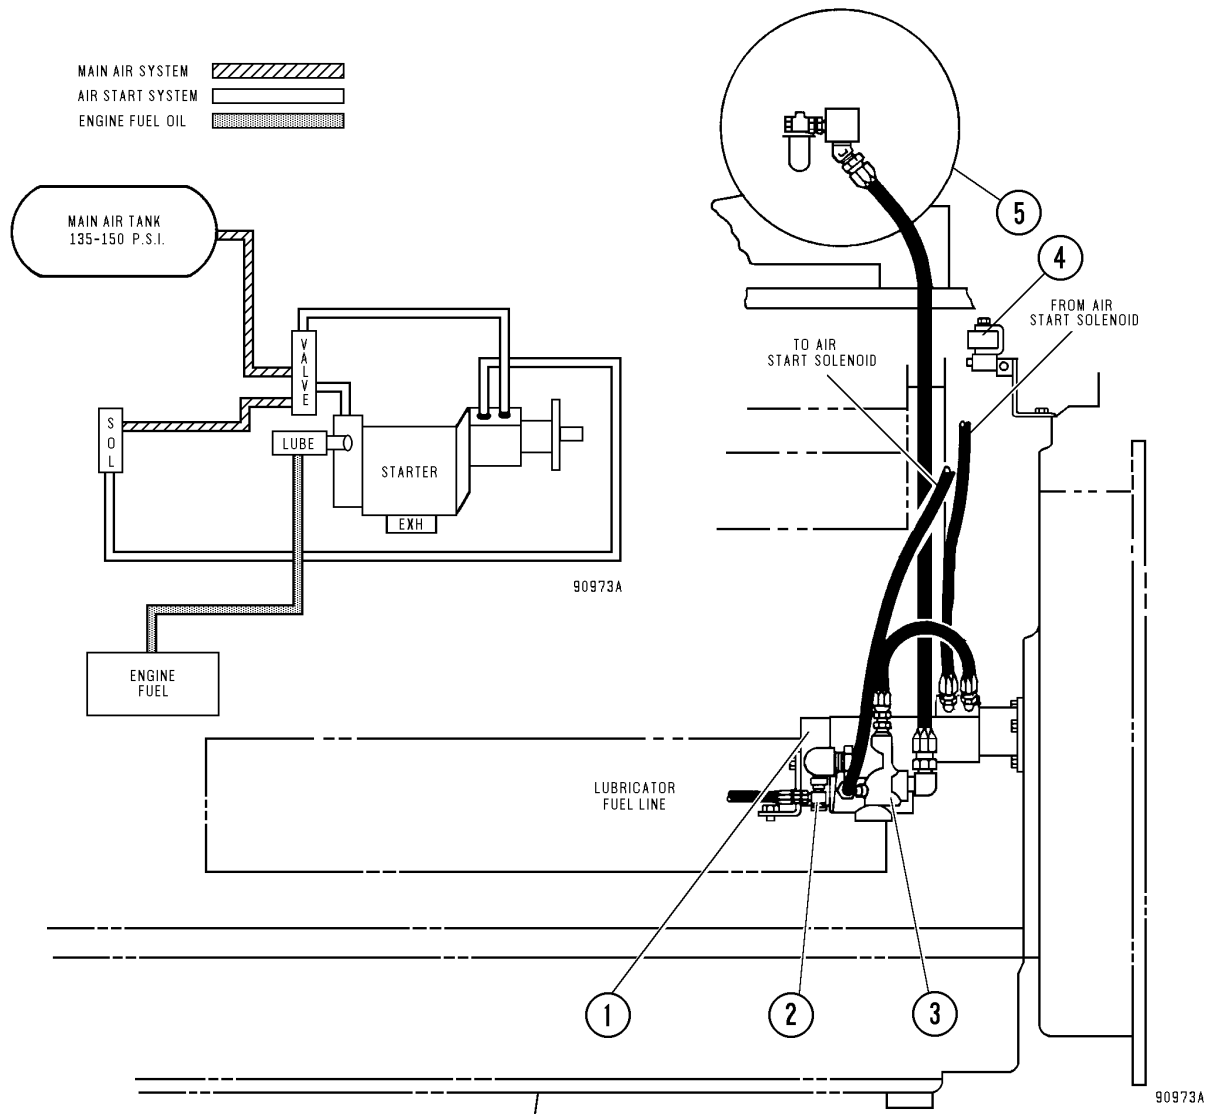

FIGURE 4-1. AIR STARTER CIRCUIT
The dump valve (3, figure 4-1) provides a quick "On", "Off" control of the starter motor. A pilot line connected from the starter bendix housing to the pilot port of the dump valve, applies air pressure to the end of the dump valve spool. The movement of the spool opens a passage within the valve to allow air pressure to pass from the main air tank (5) for operation of the starter motor.
The solenoid valve (4, Figure 4-1) is an electrically operated air valve controlled by the key switch. When key switch is turned to "Start" position, the solenoid is energized and opens to allow air pressure to flow to the inlet port of the starter bendix insuring engagement of the pinion with the engine flywheel. Air pressure continues out the pinion outlet port to the dump valve and engages the air starter. Periodically check valve for air leaks and operation of solenoid.